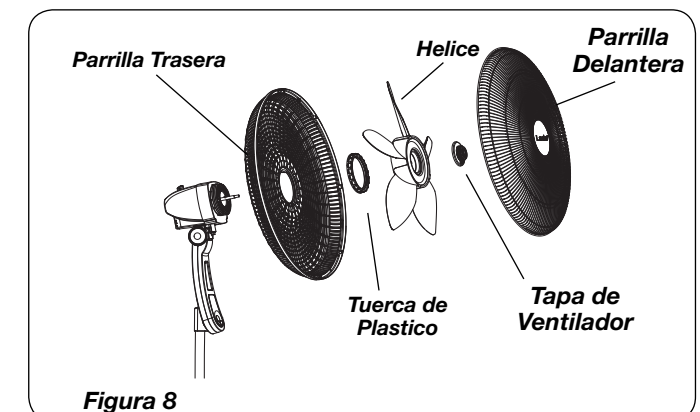

Figure 8
- Fully seat **Rear Grill** and secure with **Plastic Nut** turning Clockwise. Slide **Blade** onto **Motor Shaft**. (*Figure 8*) Align **Groove** on blade hub with **Pin** on motor shaft. (*Figure 8A*)